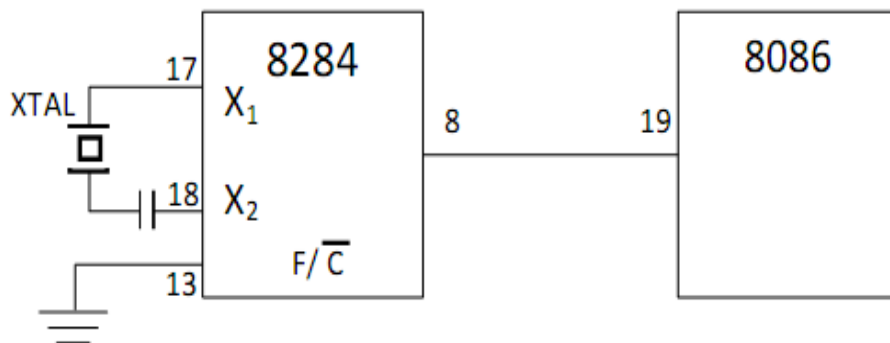

Fig. 4: Connecting the 8284 to the 8086.
- * For 8086, we connect either a 15-, 24- or 30-MHz crystal between inputs X1 and X2 of the clock chip (see Fig. 4).